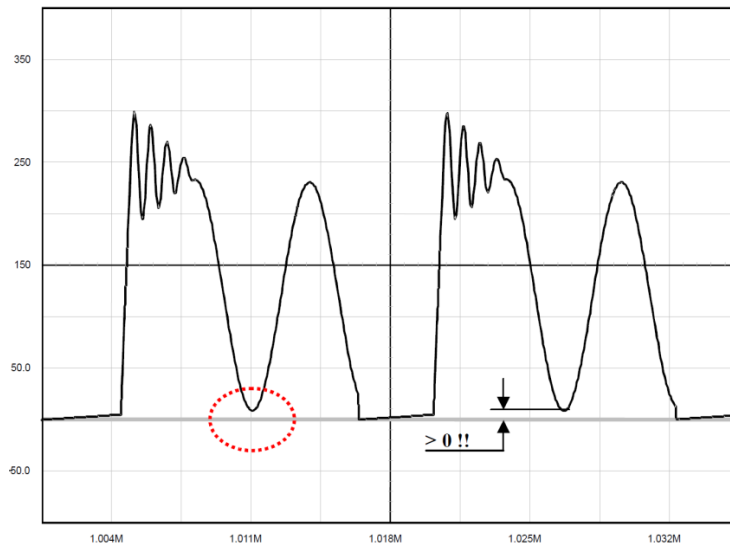

Figure 51. The Drain-Source Wave Shall Always be Positive
1. The lateral MOSFET body-diode shall never be forward biased, either during start-up (because of a large leakage inductance) or in normal operation, depicted by Figure 51. This condition sets the
and defines the amount of ripple we want in CCM, depicted by Figure 51.
Figure 53a: the simple capacitor limits the voltage according to the lateral MOSFET body–diode shall never be forward biased, either during start–up (because of a large leakage inductance) or in normal operation as shown by Figure 51. This condition sets the maximum voltage that can be reflected during t_F . As a result, the flyback voltage which is reflected on the drain at the switch opening cannot be larger than the input voltage. When selecting components, you must adopt a turn ratio which adheres to the following Equation 6. This option is only valid for low power applications, e.g. below 5 W, otherwise chances exist to destroy the MOSFET. After evaluating the leakage inductance, you can compute C with (Equation 7). Typical values are between 100 pF and up to 470 pF. Large capacitors increase capacitive losses...